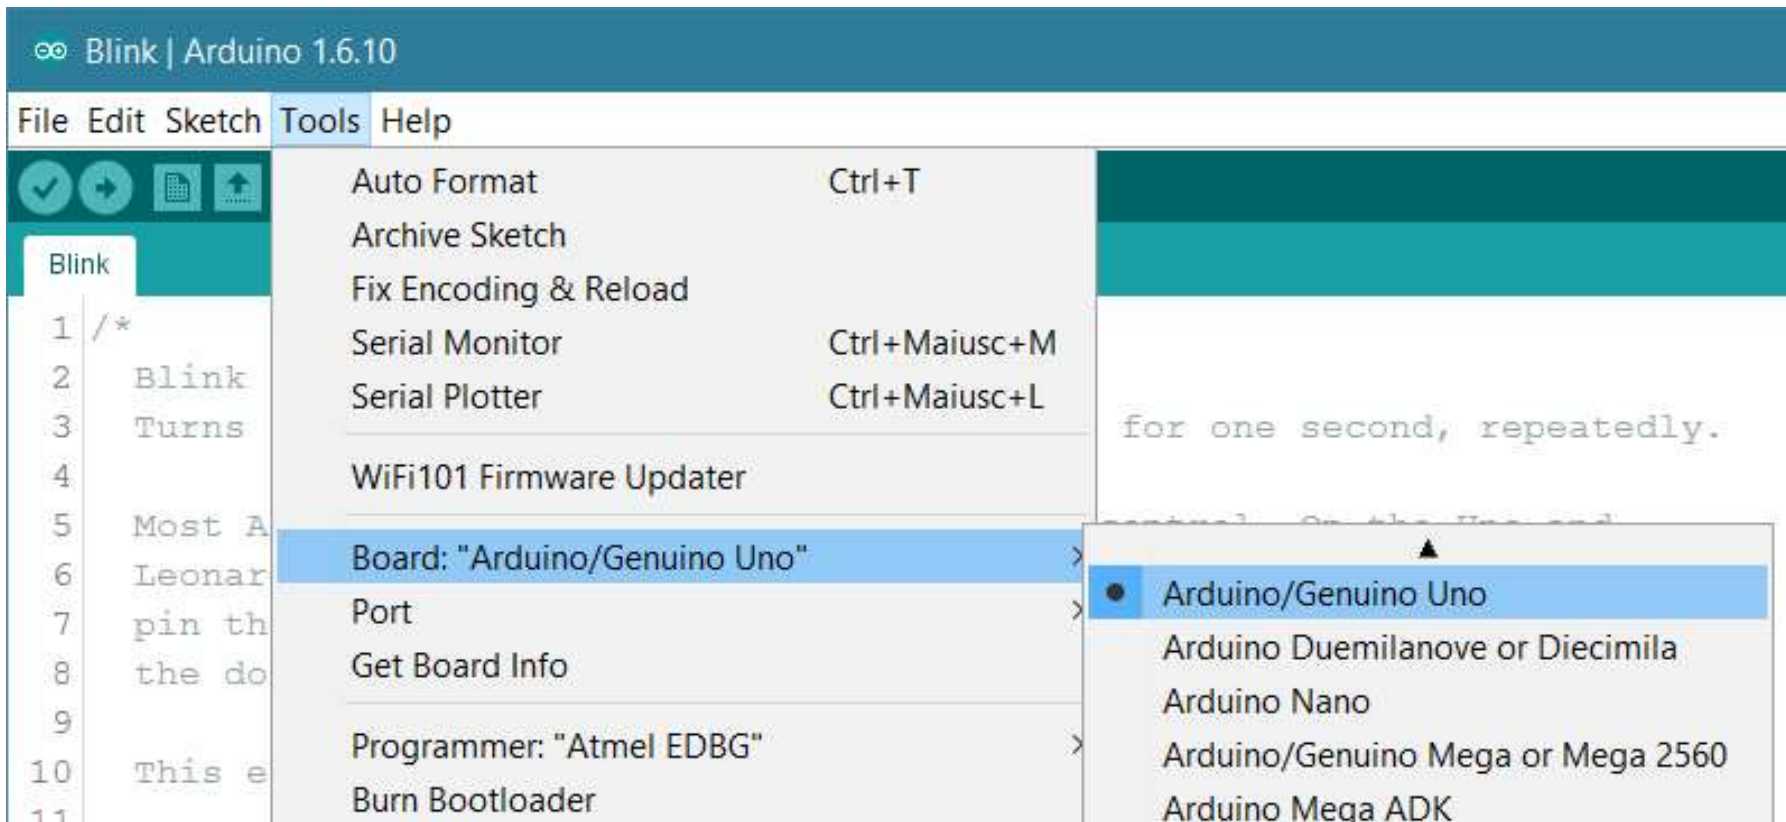

Figure 7.3 : Selecting the Right Board
- In this case Arduino Uno is being used, so go and click on Tools->Board: Arduino/Genuino Uno as shown in the figure 7.3.